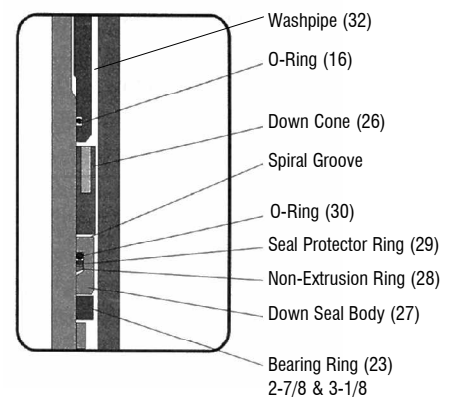

Figure 7.4
1. Install Non-Extrusion Ring (28), Seal Protector Ring (29), and O-ring (30) onto the ID of the Down Seal Body. Refer to Figure 7.4.
13. Sizes 1¹¹/₁₆ inch, 2¹/₈ inch, and 2¹/₄ inch only: Install the Split Ring (24) and Split Ring Retainer (25) on the Mandrel Extension.
14. Sizes 2⁷/₈ inch and 3¹/₈ inch only: Install the Bearing Ring (23) on the Mandrel Extension. Refer to Figure 7.4.
15. Apply clean Jar Oil to the short seal surface on the Mandrel Extension (17).
16. Run a needle in the Spiral Groove on the Down Seal Body (27) to remove any dirt, and install the Seal Body on the Mandrel Extension. To prevent damage to the Seal Body, use a piece of wood or a short length of PVC pipe to help slide it on the Mandrel Extension seal surface. The spiral groove side must not face the splines.
17. Install the Down Cone (26) on the Mandrel Extension. This should be the same one which was removed from the Mandrel Extension during disassembly. This part should slide easily and without any indication of binding.
CAUTION: The Down Cone should be assembled as shown in Figure 7.4. The Cone will not function properly if it is installed incorrectly on the Mandrel Extension.